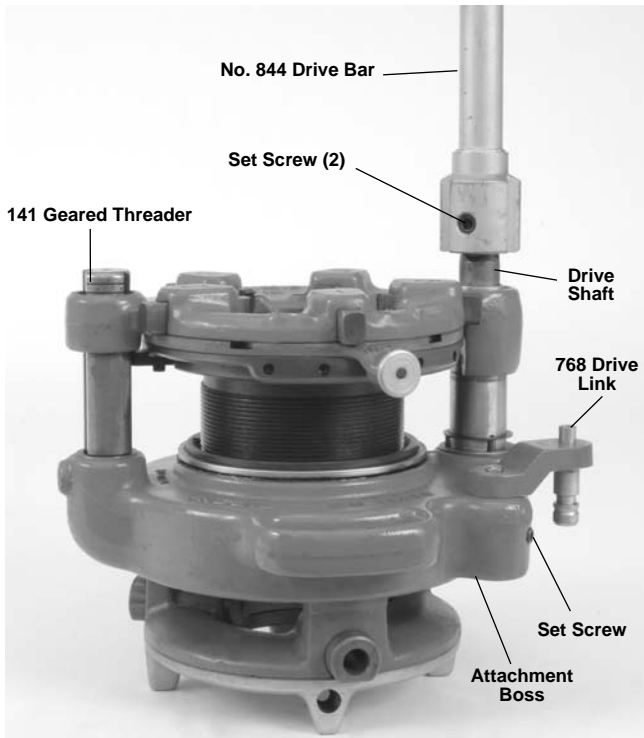

Figure 15 – 844 Drive Bar and 768 Drive Link Installed
8. With the drive shaft of the geared threader up, attach the 844 Drive Bar and securely tighten the two set screws to retain in place (See Figure 15). For 535A machine, do not attach drive bar at this time.
1. Loosen setscrew in geared threader attachment boss. Install the 768 Drive Link into boss and tighten setscrew to retain (Figure 15). Do not over tighten – the drive link should rotate freely.